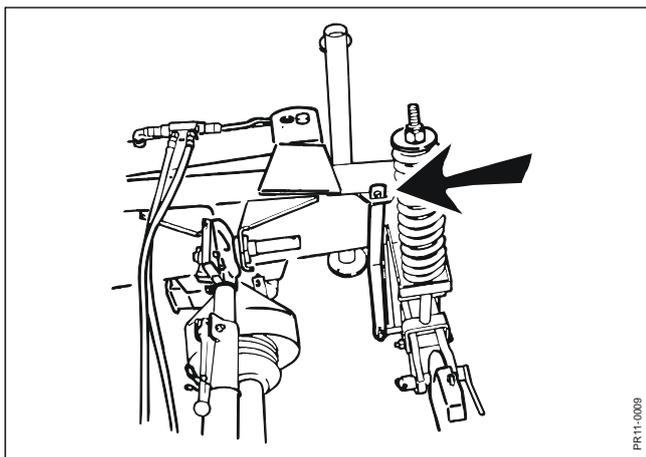

Fig. 3-4
- Fig. 3-4:** Check by keeping an eye on the measuring rod – the hole in proportion to the slot.